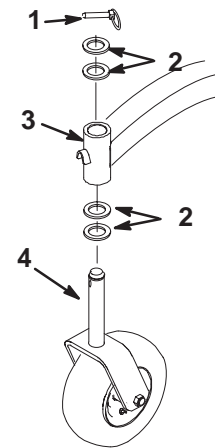

Figure 79
2. Remove the locking pin and spacer(s) from the top of the caster wheel fork (Fig. 79).
6. Inspect the caster wheel fork for wear and replace if necessary (Fig. 79).
7. Slide the caster wheel fork through the bushings in the mounting tube. Replace the spacer(s) onto the fork and secure with the retaining ring (Fig. 79).